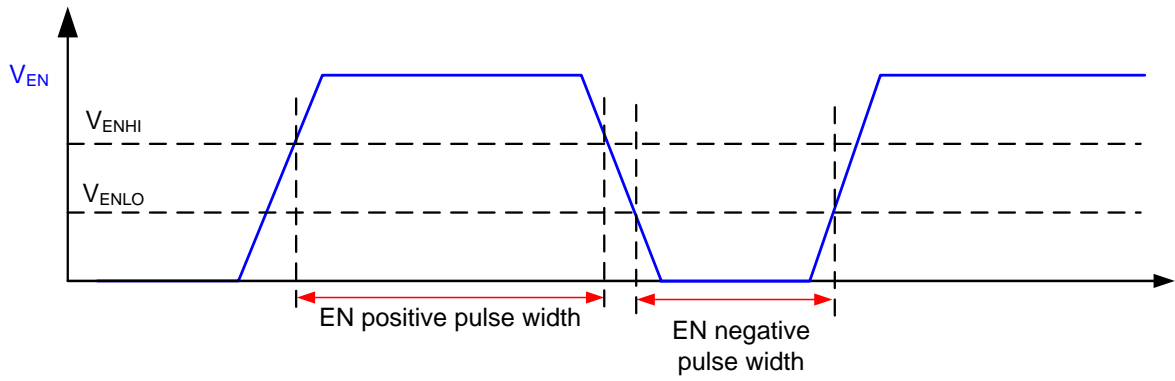

Figure 12B: Enable timing waveform
This pin is used to activate the IC "sleep" mode by pulling the voltage level below 1.6V (typ). In sleep mode the IC will consume a minimum amount of current. All switching functions will be disabled and the gate will be inactive. The EN pin voltage cannot linger between the Enable low and Enable high thresholds. The pin is intended to operate as a switch with the pin voltage either above or below the threshold range. The Enable control pin (EN) is not intended to operate at high frequency. For proper operation, EN positive pulse width needs to be longer than 20 μ s, EN negative pulse width needs to be longer than 10 μ s. Please refer to Figure 12B for the definition of EN pulse width.